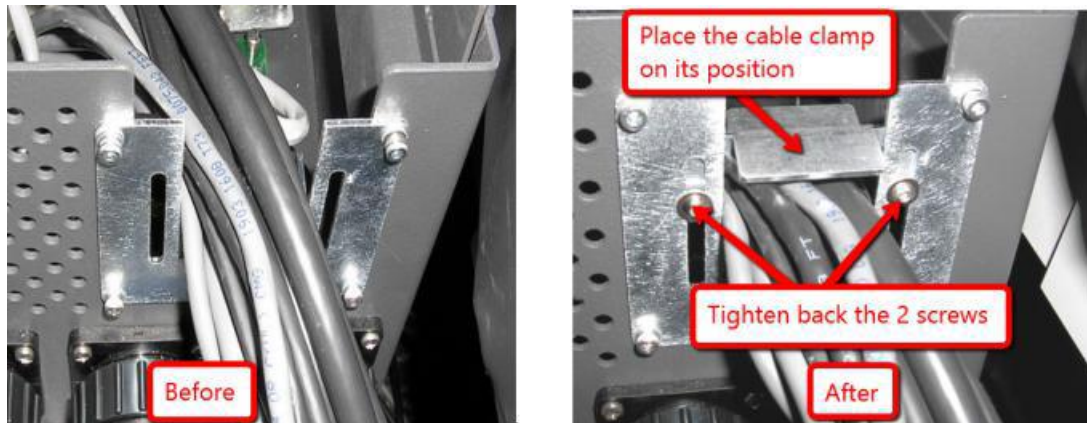

Figure 33
14. Place cable clamp on its position and tighten back the screw as shown in Figure 33.